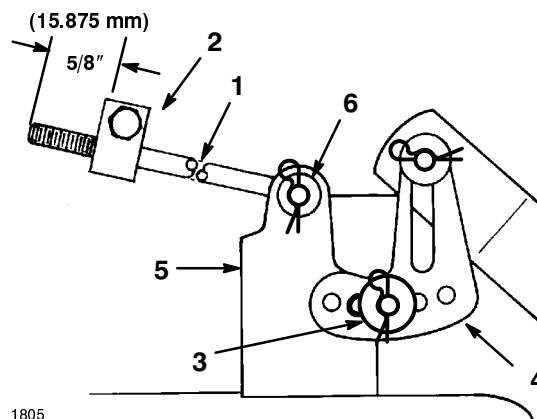

Figure 46
9. Check that both rods extend 5/8" (15.875 mm) beyond adjustment block (Fig. 46).
10. Slide the end of the long rod through the hole in the mower mount (Fig. 46). Install the thin washer and hair pin cotter to secure the rod in place. Repeat this step on the opposite side of the mower.
11. Mount the slotted mower leveling bracket onto the pin on the mower mount (Fig. 46). Install the thick washer and hair pin cotter to secure the mower. Repeat this step on the opposite side of the mower.